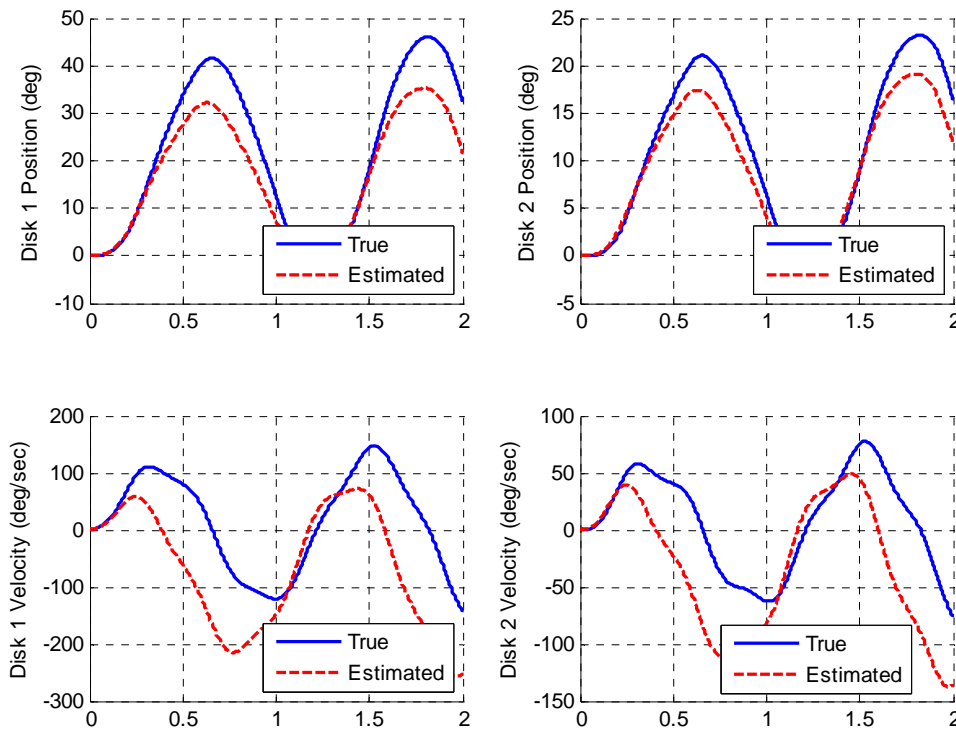

Figure 22. State feedback, full order observer, and integral control for the 2 dof system with a bad model (problem 6c).
c) Now we will try and observe what happens when there is a difference between our model and the real system. Modify the observer block in the model file, so the A matrix is called AA . Just before the you run the model file, enter the command $A = A*1.5$. You should get results like those in Figure 22.